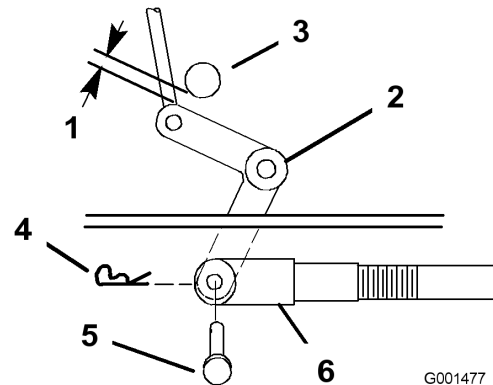
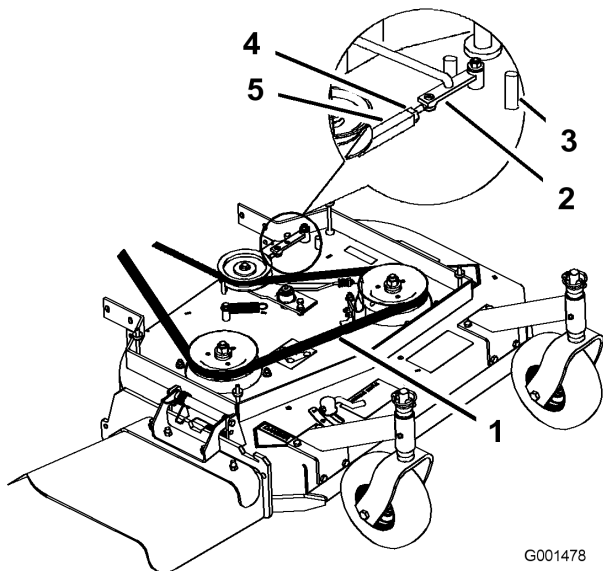

Figure 35
Figure 36
- Check the clearance between the bell crank and the transmission output shaft (Figure 35).
- Rotate the clevis clockwise on the rod to increase the clearance; rotate it counterclockwise to decrease it (Figure 35).
Note: If the assist arm does not contact the front stop on the mower deck (Figure 36), adjust the clevis to bring the bell crank closer to the transmission output shaft (Figure 35).
3. Loosen the locknut on the turnbuckle (Figure 36).
4. Rotate the turnbuckle toward the rear of the mower to increase the tension on the belt. Rotate the turnbuckle toward the front of the mower to decrease the tension on the belt (Figure 36).